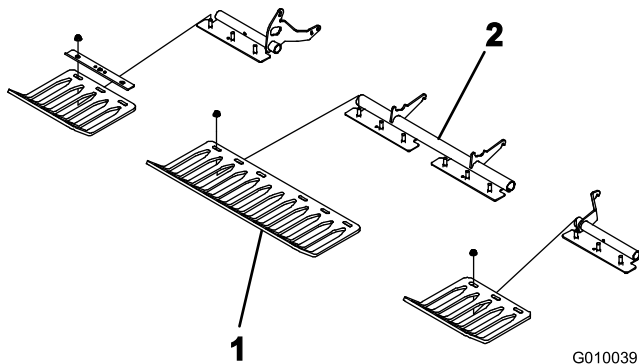

Figure 23
3. Loosely install the turf guards to the turf guard brackets with 4 turf guard clamps and 12 flange nuts (Figure 23). Do not tighten the fasteners.
Note: The turf guard clamps and flange nuts are shipped secured to the turf guard brackets (Figure 23).